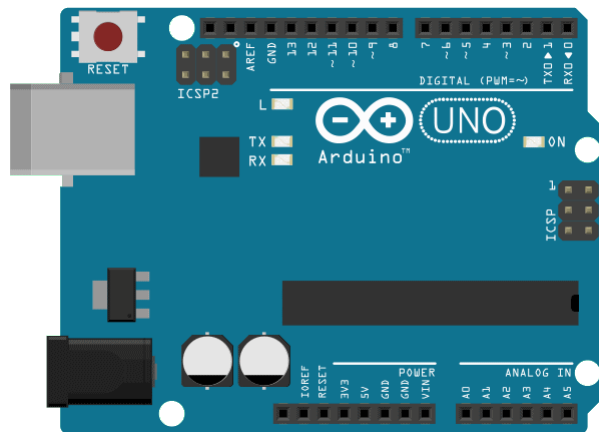

Figure 12: Arduino Uno Diagram
- Figure 12 shows the layout of an Arduino Uno.